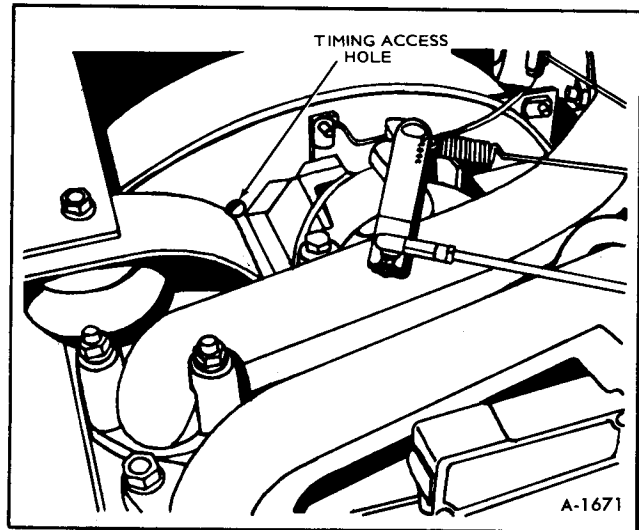

Figure 40—Timing Access Hole Location
2. Remove the dot button on blower housing to provide an access to view timing marks (See figure 40).
2. A small hole on the rear portion of blower housing provides an access to view timing marks (See figure 40). Two marks are provided; one for T/C (top center) and one for 2/0 (20° BTC).